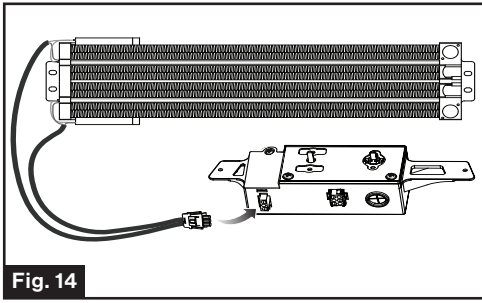

Fig. 14
18. Plug the 3-pin connector of the heat strip into the 3-pin terminal interface on the control box.(Fig. 14)